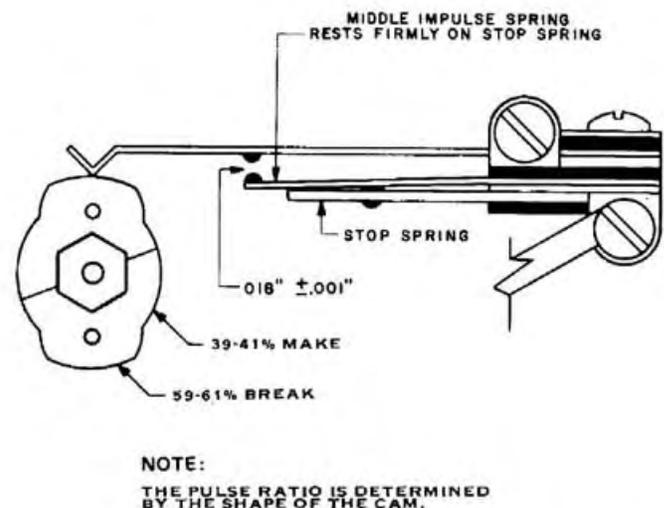

Figure 13. Standard Dial Impulse Cam Adjustment.
- (b) When not engaged by the impulse shorting arm, the middle impulse spring must firmly rest against the heavy stop spring from its own tension (Figure 13).
spring buffer (Figure 13). On Type 24 and 24A36 dials, the middle impulse spring must have a tension of from 20 to 40 grams against the stop spring, measured at the contacts.
- (d) Move the fingerwheel off-normal until the formed tip of the main impulse spring is resting against a lobe on the impulse cam (Figure 13). Check the contact separation between the main impulse and middle impulse spring; it must be 0.018 inch \pm 0.001 inch as adjusted by gauging. (Dials adjusted to percent break may show contact separation slightly outside the specified gauging limits.) An impulse ratio meter or an equivalent meter should be used to check the percent break/make. A pen recorder is also useful in this measurement. The limits should be 59 percent to 61 percent break (41 percent to 39 percent make) readjusted, and 58.5 percent to 61.5 percent break (41.5 percent to 38.5 percent make) test.